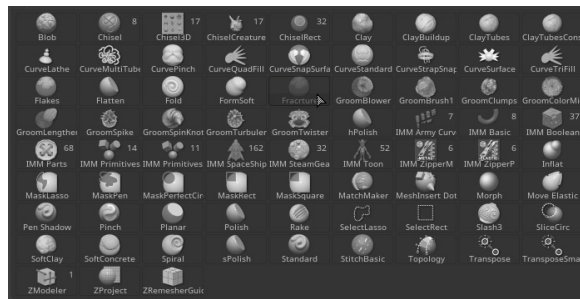

Figure 3-65 The **Fracture** brush chosen
3. Choose the Current Brush button from the left shelf; a flyout containing different sculpting brushes is displayed. Choose the **Fracture** brush from this flyout, as shown in Figure 3-65.